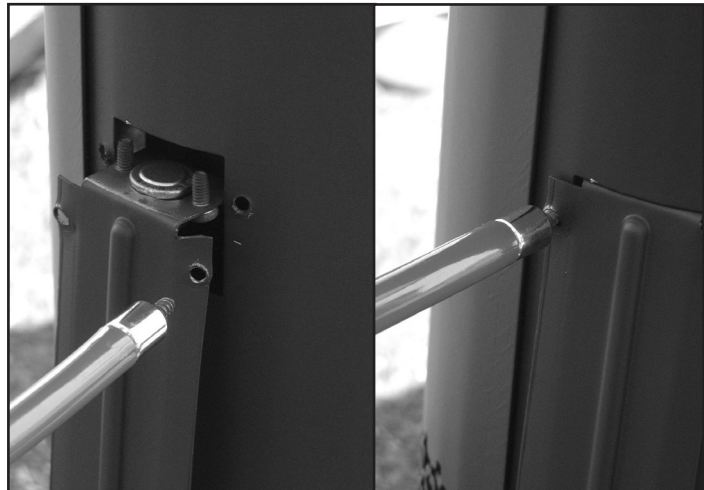

Figure 44: Spill switch installation.
3. Remove the four mounting screws holding the spill switch bracket and remove the bracket (see Figure 44).